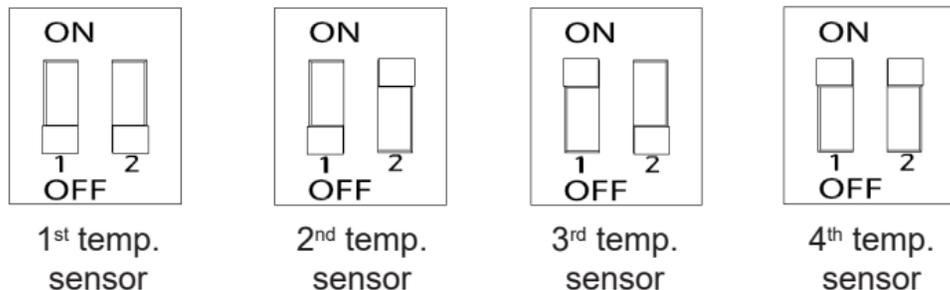

Figure 4
2. As shown in Figure 4, adjust the position of the switch according to number of the number of the temperature sensor you want to connect (1st, 2nd, 3rd or 4th).